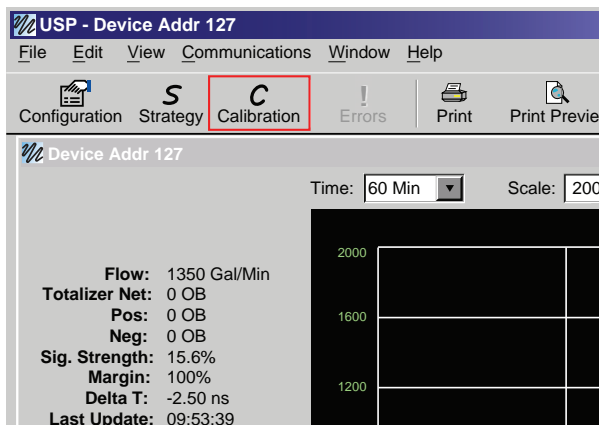

FIGURE 2.7 - DATA DISPLAY SCREEN
- 2) From the Tool Bar select Calibration. See **Figure 2.7**.